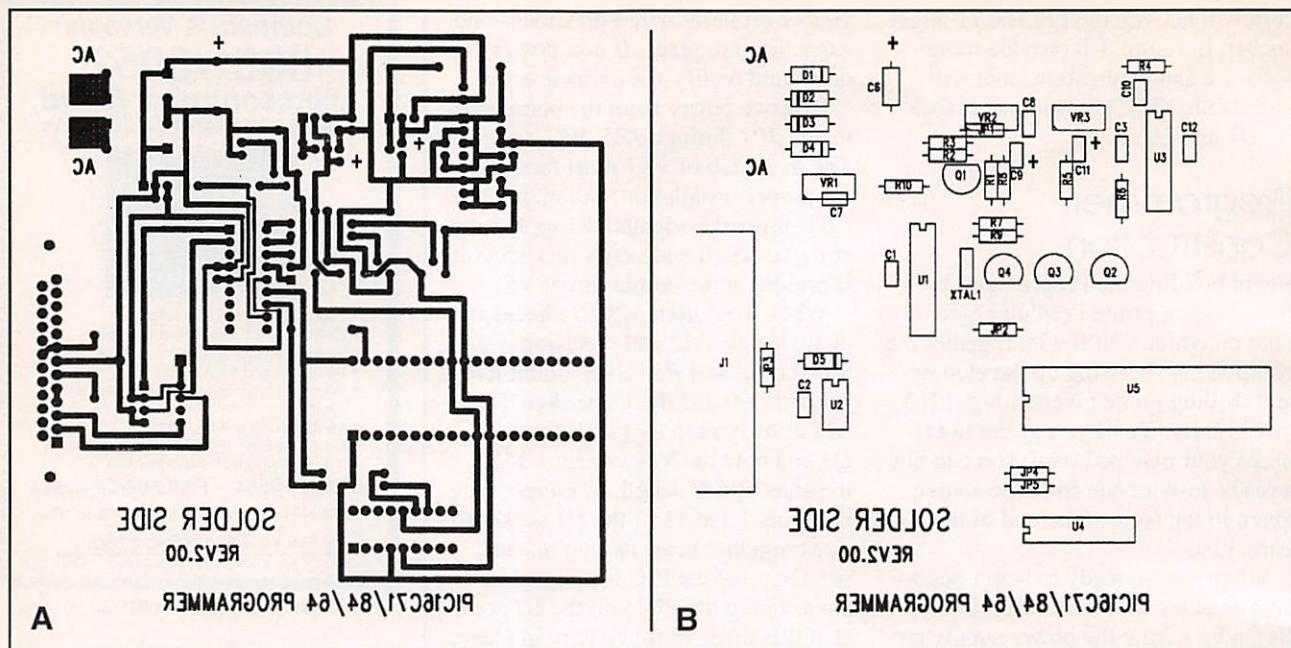

Fig. 11. Shown here are (A) actual-size etching-and-drilling guide for Programmer's printed-circuit board and (B) wiring guide for board.
Begin building the Programmer by fabricating a printed-circuit board onto on which you'll wire together the components, blowing up the etching-and-drilling guide given in Fig. 11(A) to 155% its size. If you prefer not to make your own pc board, you can buy a ready-to-wire one from the source given in the Note at the end of the Parts List.
When you're ready to begin populating the board, refer to Fig. 11(B). Begin by wiring the power supply circuit. First install D1 through D4 and C6, making sure you properly orient each of these components. Next, apply 18 volts ac across the two points labeled AC in Fig. 11(B), and use a dc voltmeter or a multimeter set to the dc-volts function to measure the voltage across C6. If you obtain a reading of approximately +25 volts here,